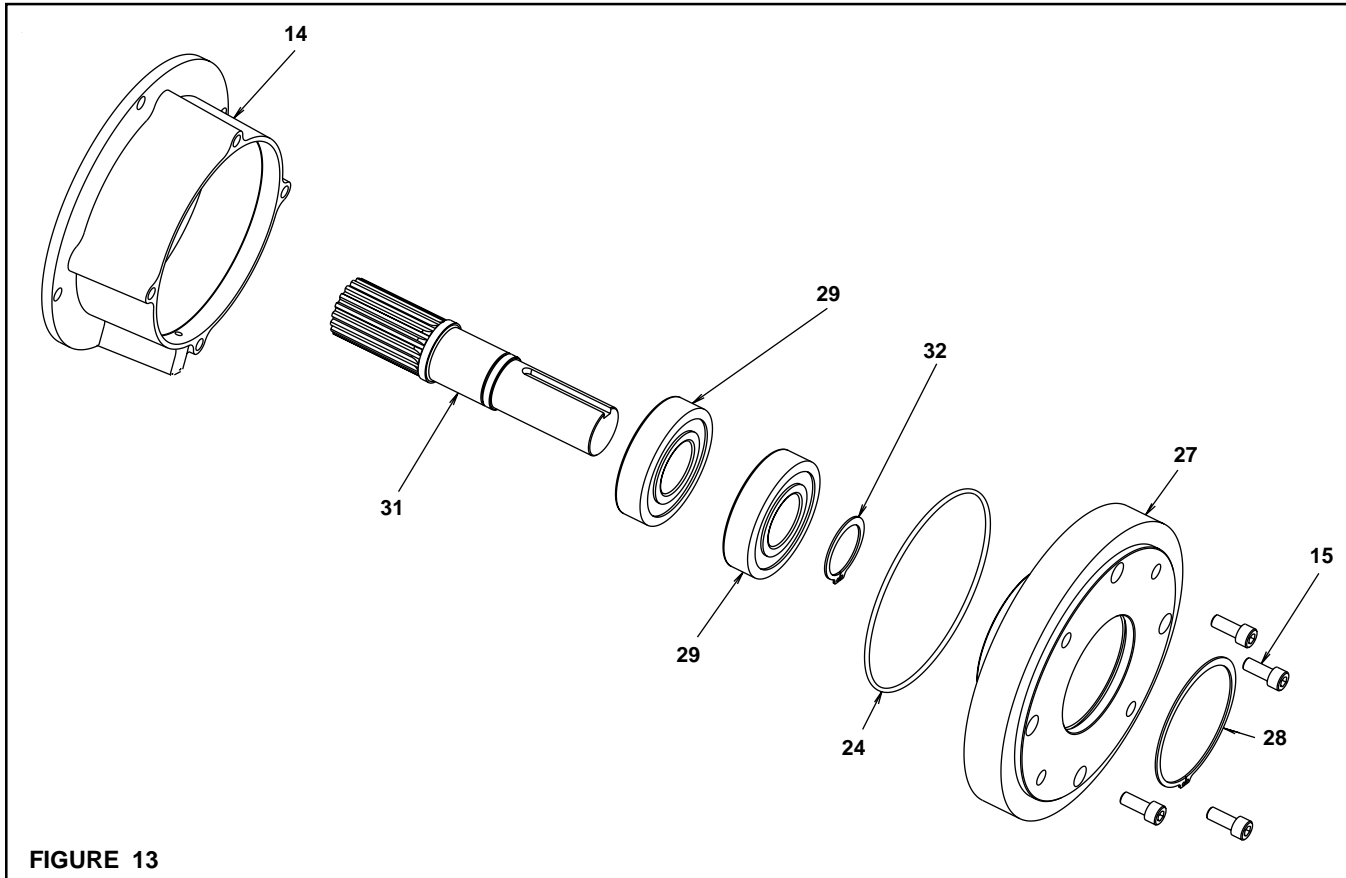

FIGURE 13
Refer to Figure 13
7. Reinstall the first Retaining Ring (Item 37) on Stub Shaft (Item 5) (See Figure 13).